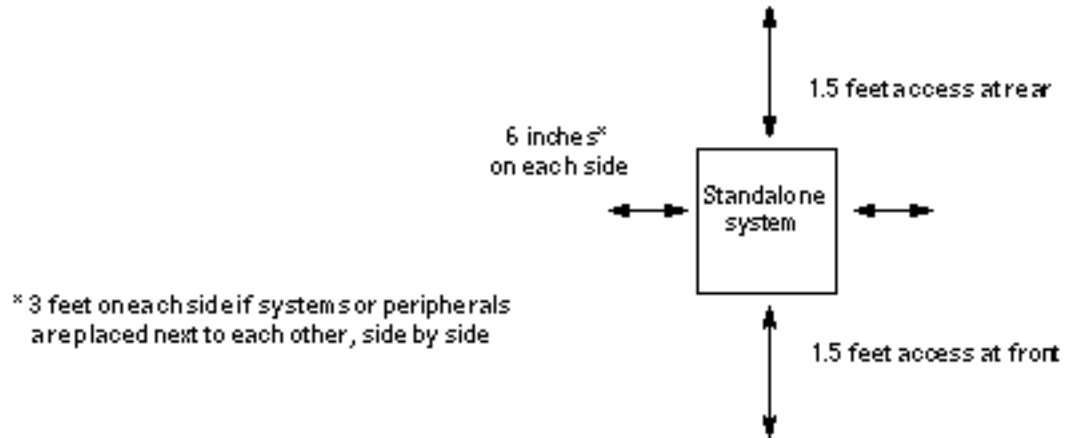

Figure 1-6 Standalone Server Access Areas — Top View
- The server unit requires approximately 1.5 feet (50 cm) of space in the front and back for access by service personnel. See Figure 1-6.